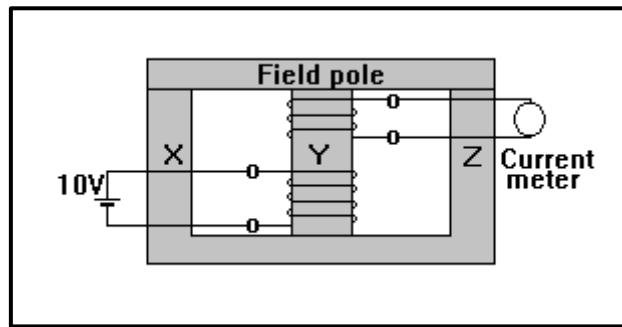

Figure 8.3
4. Make the connection as shown in Figure 8.3
The equation states that the phasor voltage at the terminals of an inductor equals $j\omega L$ times the phasor current. Figure 8.3 shows the frequency domain equivalent circuit for the inductor.